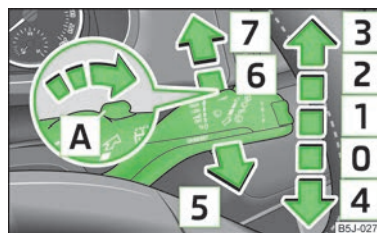

Fig. 31
- If you only wish to wipe the windscreen **briefly**, push the lever into the spring-tensioned position **4** » Fig. 31.
- Position the lever upwards into position **1** » Fig. 31.
- Position the lever upwards into position **2** » Fig. 31.
- Position the lever upwards into position **3** » Fig. 31.
- Pull the lever towards the steering wheel into the spring-tensioned position **5** » Fig. 31, the wash system and the windshield wipers will operate.
- Push the lever away from the steering wheel into position **6** » Fig. 31 and the windscreen wiper will operate every 6 seconds.
- Push the lever away from the steering wheel into the spring-tensioned position **7** » Fig. 31, the windshield wiper and wash system will operate.
- Move the lever back into the home position [0] » Fig. 31.
When the low beam or main beam are switched on, and the windscreen wiper lever is pulled into the position [5] » Fig. 31 on page 45, the headlights are sprayed briefly. To clean the headlights, the windshield is also sprayed after every five squirts.